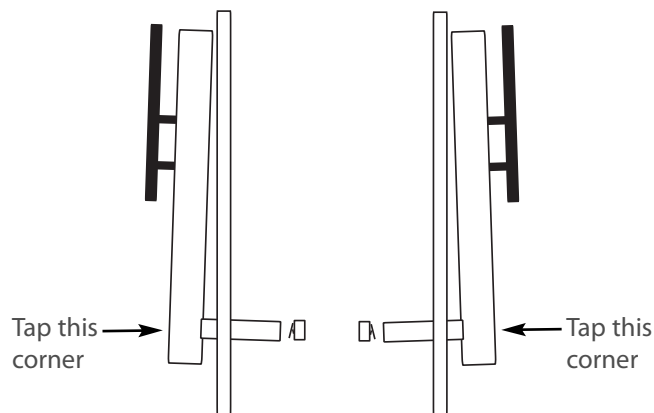

Figure 31B: Door Misaligned 1 - Side Views
5. Slide the door in and out of the cavity, making sure the gaps between the door and cavity face are the same distance on each side. Figures 31B and 31C show misaligned doors.